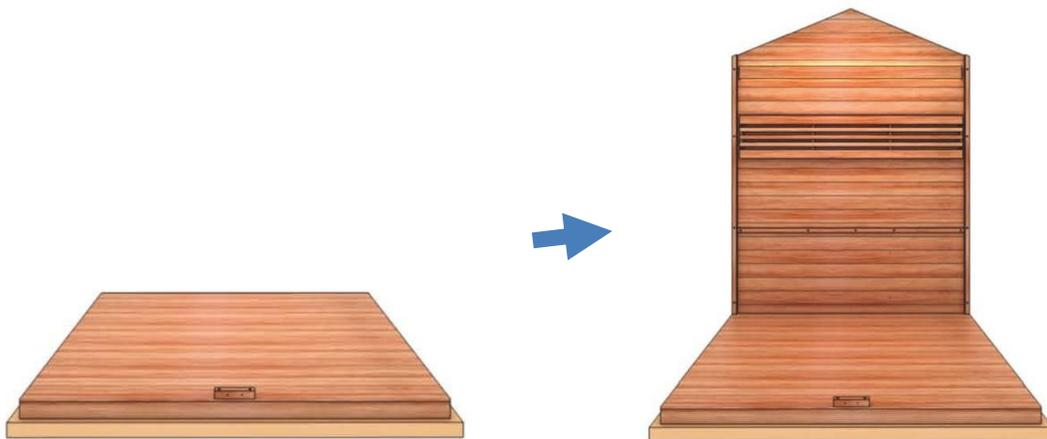

Figure 1
1. Two adults can place the FLOOR PANEL in the chosen location for the sauna room. Please note the cutout on the edge of the FLOOR PANEL. The wall panels will sit on the lower of the two edges. The wood pattern on the FLOOR PANEL will run side-to-side. You will need to have enough space to navigate around the sauna room while assembling. Next, two adults will need to place the REAR WALL PANEL up and onto the lower of the two edges on the FLOOR PANEL. Make sure that the REAR WALL PANEL and FLOOR PANEL fit together snug and tight. One adult will need to hold the REAR WALL PANEL in place. (see Figure 1)